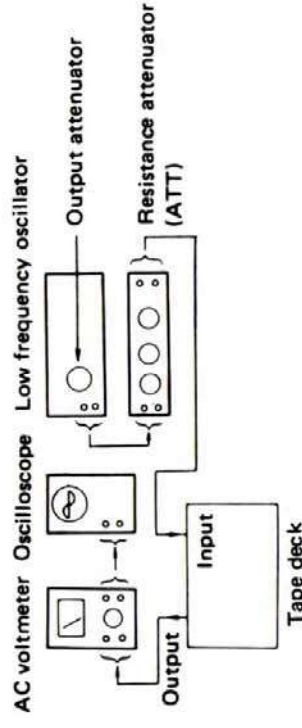

Fig. 19
- * Unless otherwise specified, connect the measuring equipment to the tape deck as shown in Fig. 19.